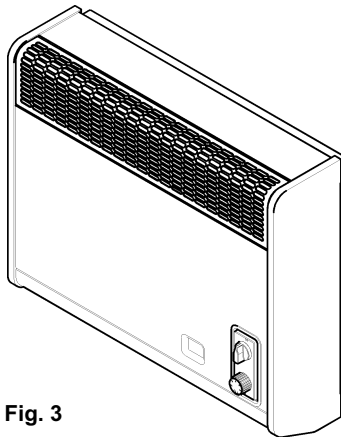

Fig. 3
1. The appliance is controlled by two knobs which are positioned at the lower right on the front of case (Fig. 3).